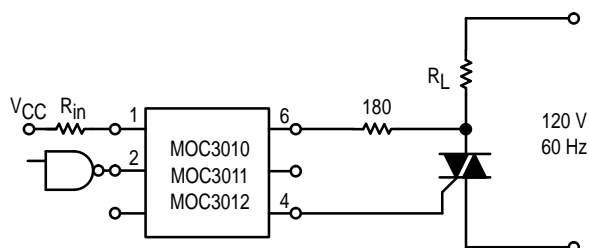

Figure 7. Resistive Load
2. This is static dv/dt . See Figure 7 for test circuit. Commutating dv/dt is a function of the load-driving thyristor(s) only.